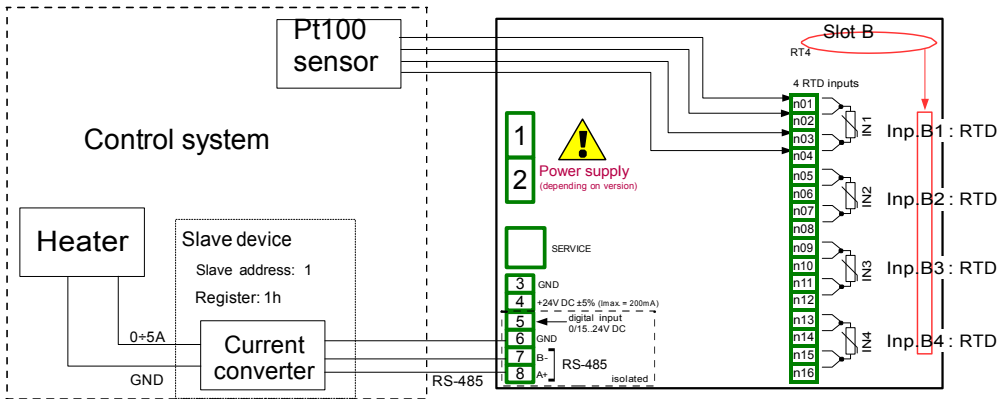

Fig. 7.72. Schematic diagram for the RT4 module and MB1 Modbus port
Before measuring and regulating the temperature, user should configure the device as follows and then connect the thermocouple sensor and Current converter to the device. An example of the connection is shown in Fig. 7.72.
- Source parameters set as Inp.A1 : RTD (see Fig. 7.72),
- Precision parameters set as 0.00 , because with this precision we can send signal from controller to Current converter (see Fig. 7.72),